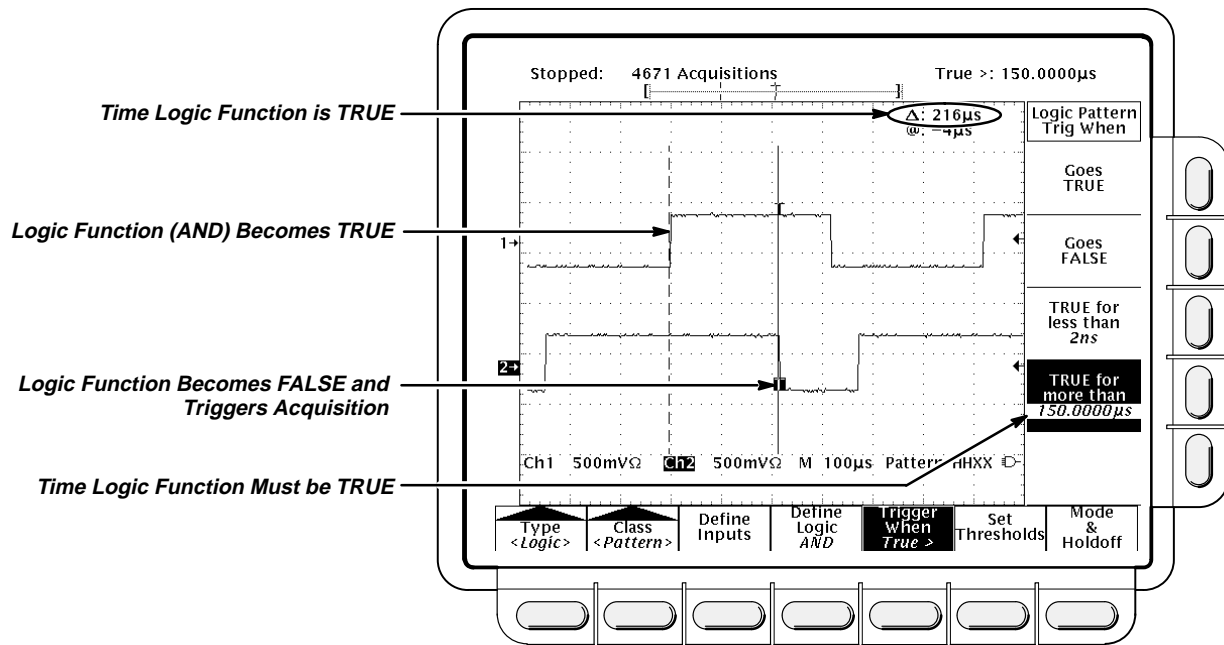

Figure 3-28: Logic Trigger Menu—Time Qualified TRUE
Note the position of the trigger indicator in Figure 3-28. Triggering occurs at the point the specified logic function is determined to be true within the specified time. The oscilloscope determines the trigger point in the following manner:
In Figure 3-28, the delay between the vertical bar cursors is the time the logic function is TRUE. Since this time is more (216  $\mu$ s) than that set in the **True for more than** menu item (150  $\mu$ s), the oscilloscope issues the trigger at that point, not at the point at which it has been true for 216  $\mu$ s.